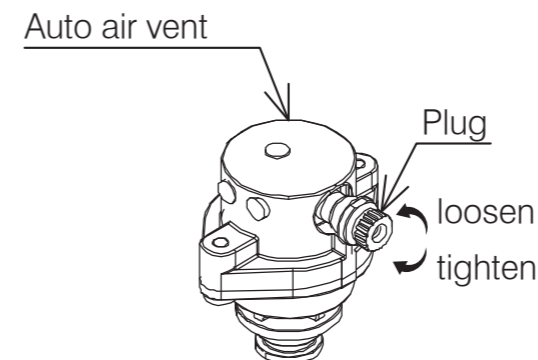

Figure 4-3: Auto Air Vent
3. Remove the top (6kW) and front right (10kW and 16kW) casing and loosen the plug on the automatic air vent located inside the heat pump. Refer to Figure 4-3.